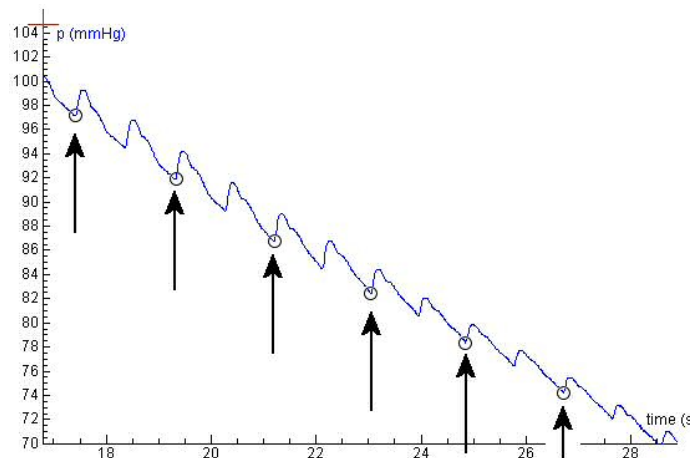

Figure 4. Select the points at which the pressure value
4. Mark the very first point, very last point and points where the pressure values are locally minimal. These points indicate the graph of the deflating pressure trend of the cuff (i.e. without the pulses). It is enough to take every second minimum (see figure 4).